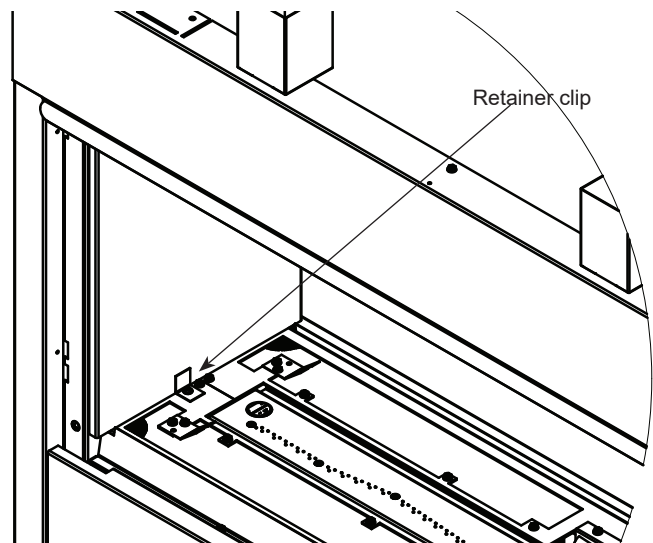

Figure 28. Porcelain Panel Clip Location
4. Remove single retainer clip at base of panel. See Figure 28.